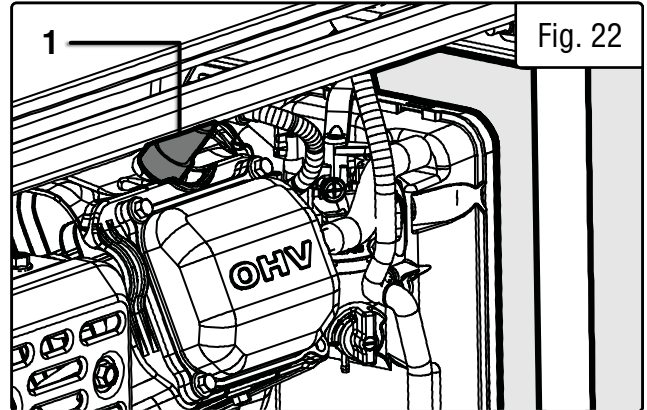

Fig. 22
1. Gently pull on the spark plug boot (Fig. 22 - 1) to remove it. Be careful not to tear any insulation or wire.